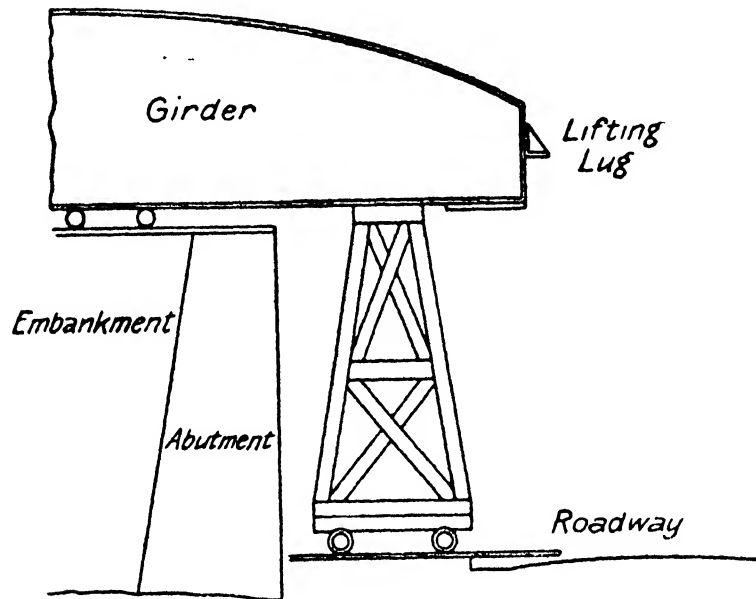

FIG. 69.—One method of Spanning a Roadway.
**Spanning a Roadway.**—Bridge erecting on new roads or railway lines offer different conditions, but it must not be imagined that an extended time may be taken over the job, because the contractors forge ahead and are usually waiting to get across the new span. One method of bridging a main road with huge plated girders is shown in sketch (Fig. 69.) The line in this case was on an embankment, and across the roadway below a short piece of track was laid. On the latter a trolley with a long trestle superstructure took one end of each girder across—the track being laid in parts as needed—so that the roadway was not closed for one moment. A powerful hydraulic jack did the pushing from the other end of the girder, whilst a wire hauser and winch assisted from the opposite abutment. After the two main girders were in position the cross girders were inserted—commencement being made at one end—and the track was laid temporarily upon these, so that nothing had to be done from below.